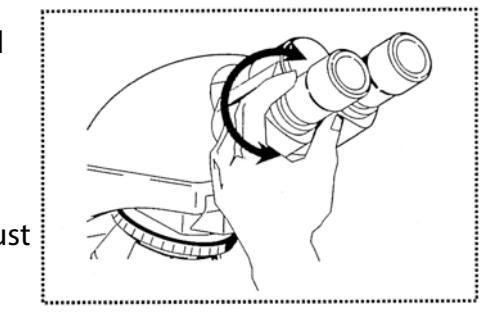

Fig. 8
6.4 Replacement of fuse (shown in Fig. 8)
b. Diopter adjustment (Fig. 8)